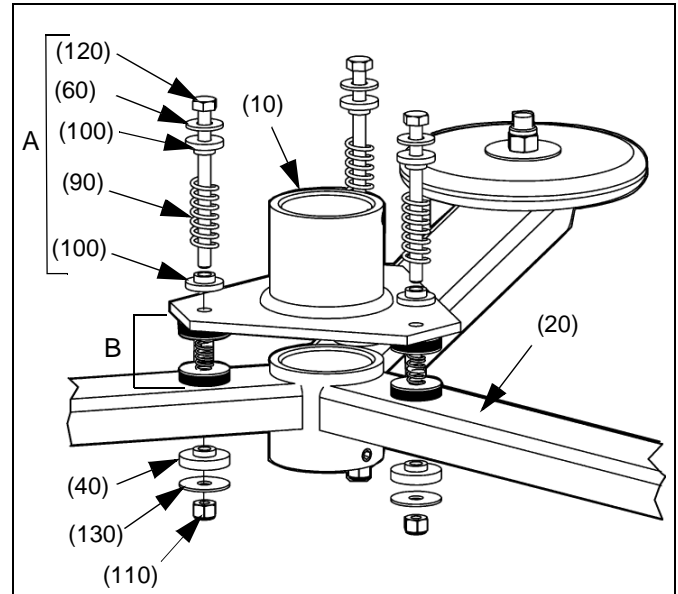
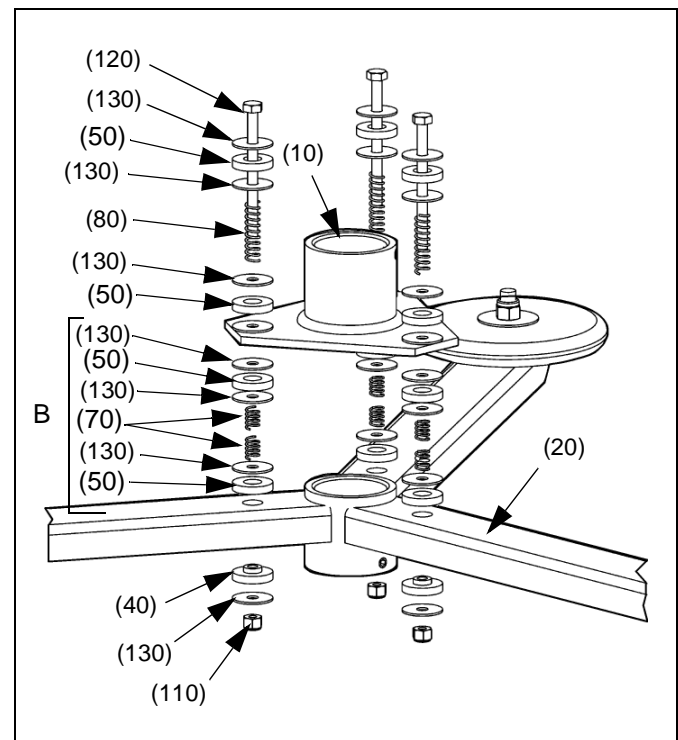
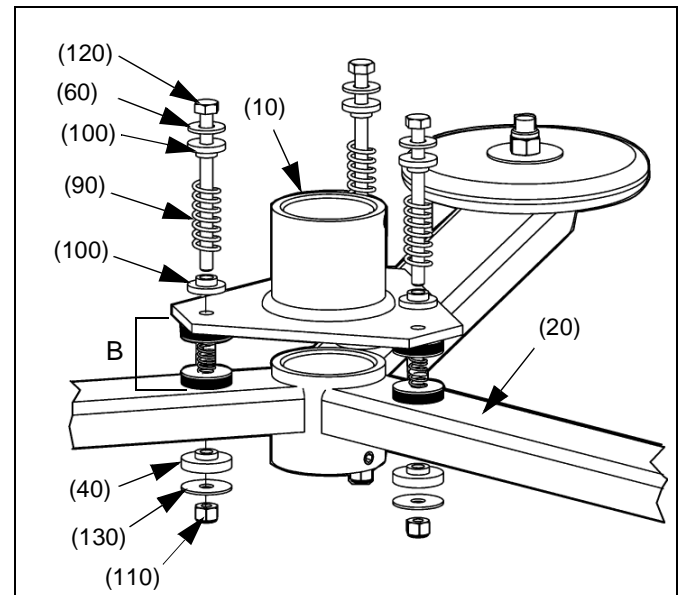

Figure 3: Remove 35lb-15lb Application Hardware.
Figure 4: Install 0-15lb Application Hardware.
Figure 6: Install 15lb-35lb Application Hardware.
2. Loosen and remove 1/4-20 Nylock nut (110), 1/4" fender washer (130), and stepped sorbothane damper (40) located underneath mount arm and set aside for reuse. (see figure 3)
3. Slide 1/4-20 x 4" tap bolt (120) upward, out of mount top (10).
NOTE: Make certain hardware group B (see figure 3) and (see figure 4) stays in place when removing 1/4-20 x 4" tap bolt (120) and associated hardware.
4. Remove hardware group A (see figure 3) keeping 1/4-20 x 4" tap bolt (120) for reuse in 0-15lb configuration.
5. Install 1/4" fender washers (130), sorbothane dampers (50), and long medium gauge spring (80), onto 1/4-20 x 4" tap bolt (120). (see figure 4)
6. Insert 1/4-20 x 4" tap bolt (120) with washers and dampers through mount top (10), group B hardware (see figure 6), and mount bottom (20). (see figure 4)
7. Install stepped sorbothane damper (40), fender washer (130), and Nylock nut (110) onto 1/4-20 x 4" tap bolt (120). (see figure 4)
5. Install 1/4" machine washer (60), stepped dampers (100), and long heavy gauge spring (90), onto 1/4-20 x 4" tap bolt (120). (see figure 6)
6. Insert 1/4-20 x 4" tap bolt (120) with washers and dampers through mount top (10), group B hardware (see figure 6), and mount bottom (20). (see figure 6)
7. Install stepped sorbothane damper (40), fender washer (130), and Nylock nut (110) onto 1/4-20 x 4" tap bolt (120).
8. Tighten all the parts installed in Step 1, Step 2 and Step 3 using a 1/4-20 x 4" tap bolt (120) and 1/4-20 Nylock nut (110) until a slight preload is on the springs.